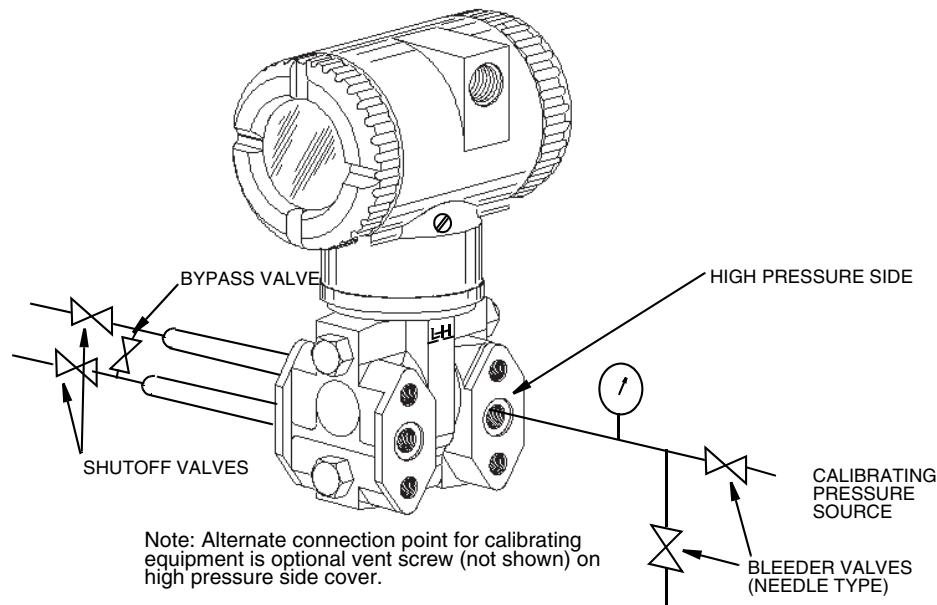

Figure 33. Field Calibration Setup
To set up the equipment, refer to Figure 33 and use the following procedure.
4. Complete the setup shown in Figure 33.